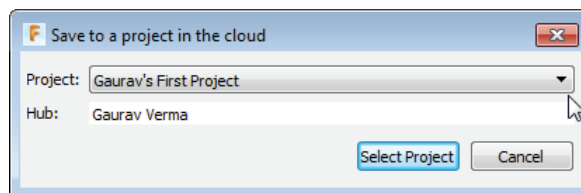

Figure-24. Save to a project in the cloud
- Select the **Save to a project in the cloud** check box if you want to save the file on cloud otherwise make it clear. Note that this check box is available only for **Archive Files (*.f3d)** format. If you are saving this file for the first time on cloud then the **Save to a project in the cloud** dialog box will be displayed on clicking the **Save** button; refer to Figure-24. Select the desired project from the **Project** drop-down in the dialog box and click on the **Select Project**. The file will be saved in selected project on cloud.